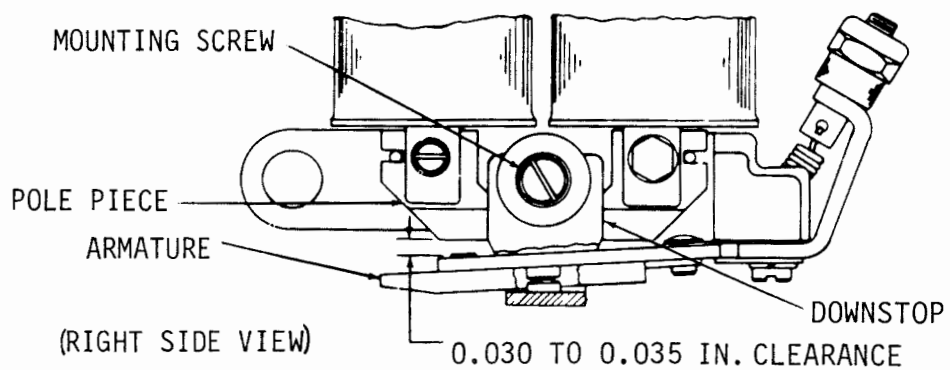
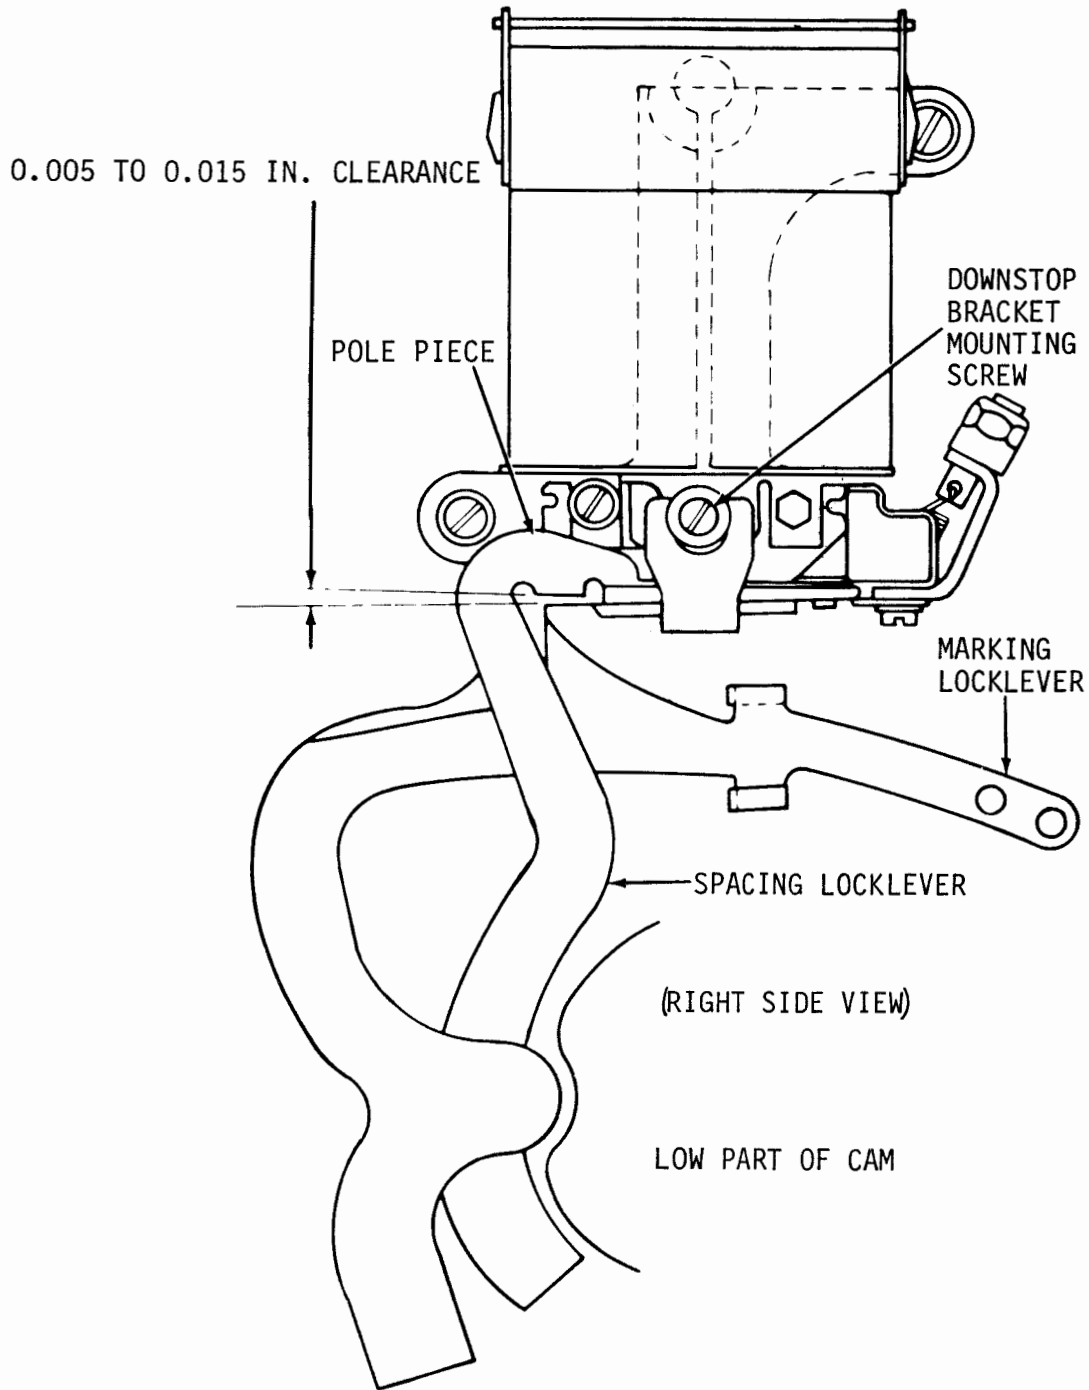

Figure 6-74. Selector Armature Downstop (Preliminary)
Figure 6-75. Selector Armature Downstop (Final)
(11) Selector Armature Downstop (Preliminary). Adjust selector armature downstop as follows:
- (a) Refer to figure 6-74.
(12) Selector Armature Downstop (Final). Adjust selector armature downstop as follows:
- (a) Refer to figure 6-75.